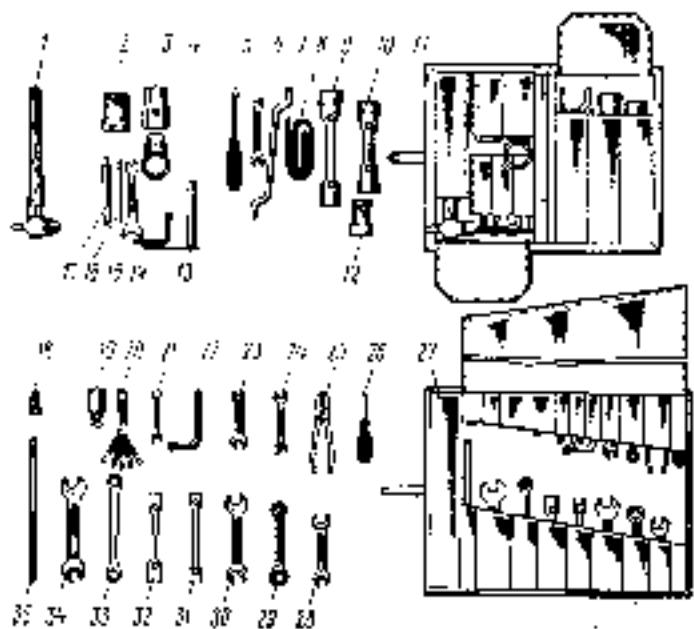
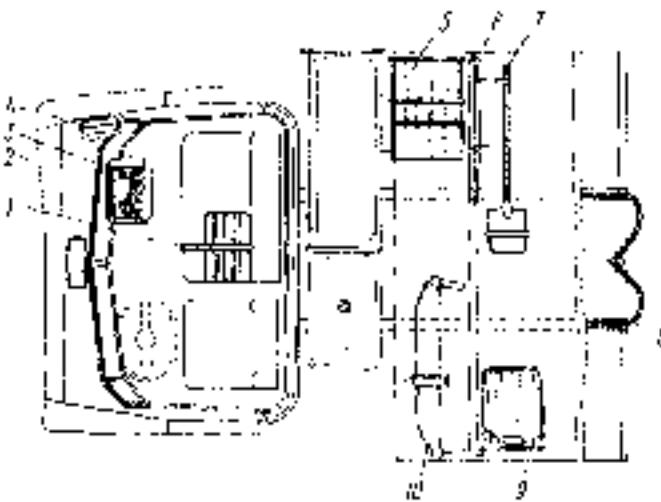

Fig. 155. Tools of Ural 4320-02 Truck
Fig. 157. Location of Tools and Accessories in Ural-4320-02 Truck
When running the truck the layout of the tools and accessories, namely towing rope (item 8, Fig. 157) may be determined by the driver himself.
In tool box 5 (Fig. 157) under platform in large tool bag 11 (Fig. 155)
In tool box under platform in tool bag 27 (Fig. 155)
Fixed under platform (Fig. 157)
In luggage compartment (Fig. 157)
On cab front side panel (Fig. 157)
On platform (Fig. 157) (placed in jacket and fixed on front board)